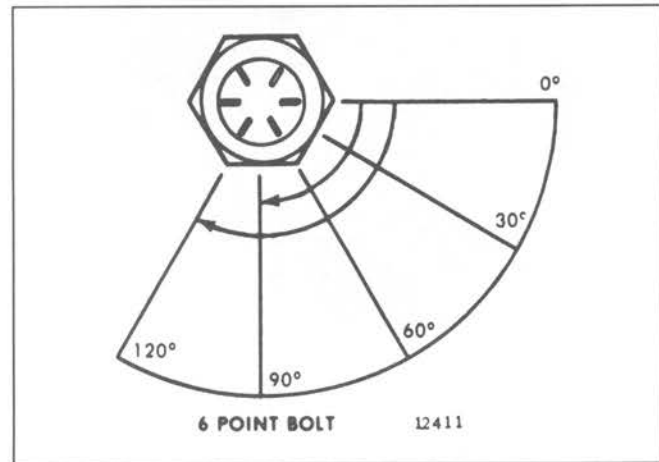

Fig. 3 – Torque-Turn Limits
9. Turn the bolts an additional 90°–120° (Fig. 3) to obtain the required clamping.